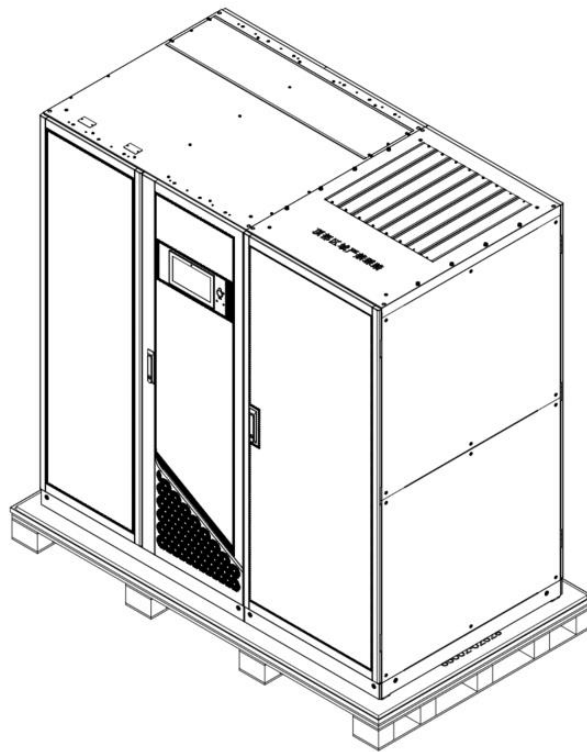

Figure 3-50 Remove the cushioning foam
Step 4: After opening the wooden box, remove the cushioning material, as shown in Figure 3-50 below;